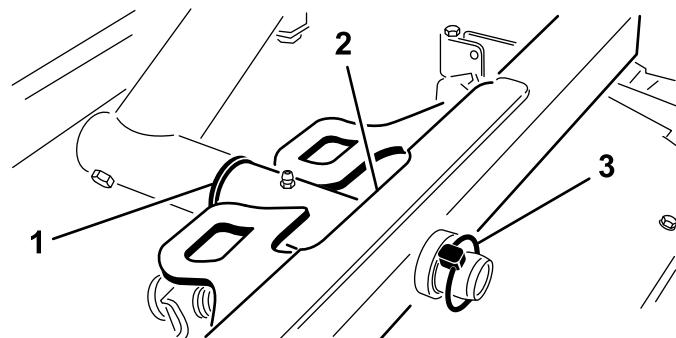

Figure 17
2. Slide the cutting unit carrier frame onto the pivot rod and secure it with a lynch pin (Figure 17).